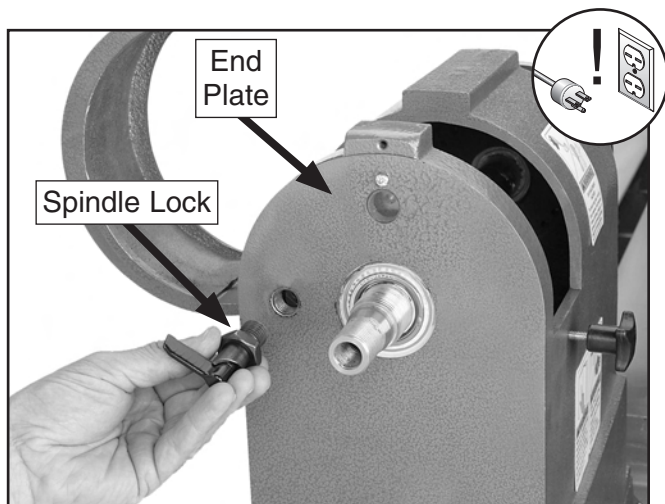

Figure 60. Removing spindle lock mechanism.
5. Unthread the lock nut on the spindle lock mechanism, then remove the unit (see **Figure 60**).